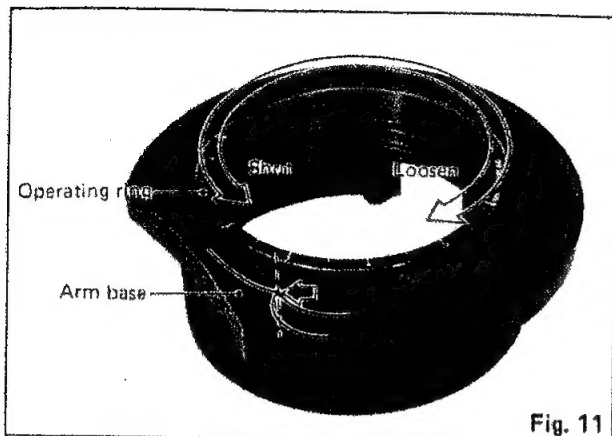

Fig. 11
2. Completely tighten the control ring, and then loosen it 1.5~2.5 turns to set the scale to "3". (See Fig. 11)